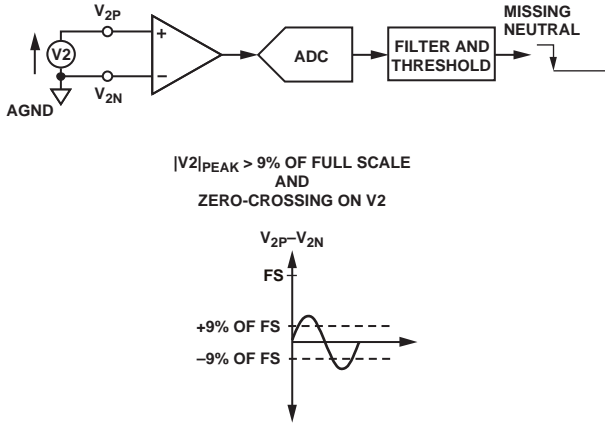

Figure 32. Return to Normal Mode after Missing Neutral Detection
The ADE7761 leaves the missing neutral mode for normal operation when both conditions are no longer valid—voltage peak value greater than 9% of full scale and zero crossing on the voltage channel detected (see Figure 32).
**Case 1:** When the analog input  $V_{2P} - V_{2N}$  complies with the conditions described in Figure 32, CF, F1, and F2 frequencies are proportional to active power and can be used to bill active energy.
**Case 2:** When the analog input  $V_{2P} - V_{2N}$  does not comply with the conditions described in Figure 32, the ADE7761 does not measure active energy, but a quantity proportional to kAh. This quantity is used to generate pulses on the same CF, F1, and F2. This situation is indicated when the FAULT pin is high.